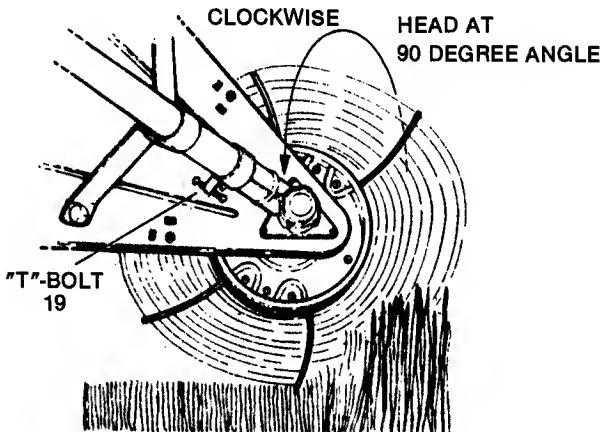

FIG. 7 - EDGING OPERATION
**ADJUSTING FOR VERTICAL EDGING** - Locate pin (Y) in LEFT hole in MAIN FRAME (13) top. Loosen "T"-BOLT, rotate head CLOCKWISE ( $90^\circ$ ) until it stops - retighten "T"-Bolt. Refer to FIG. 7.